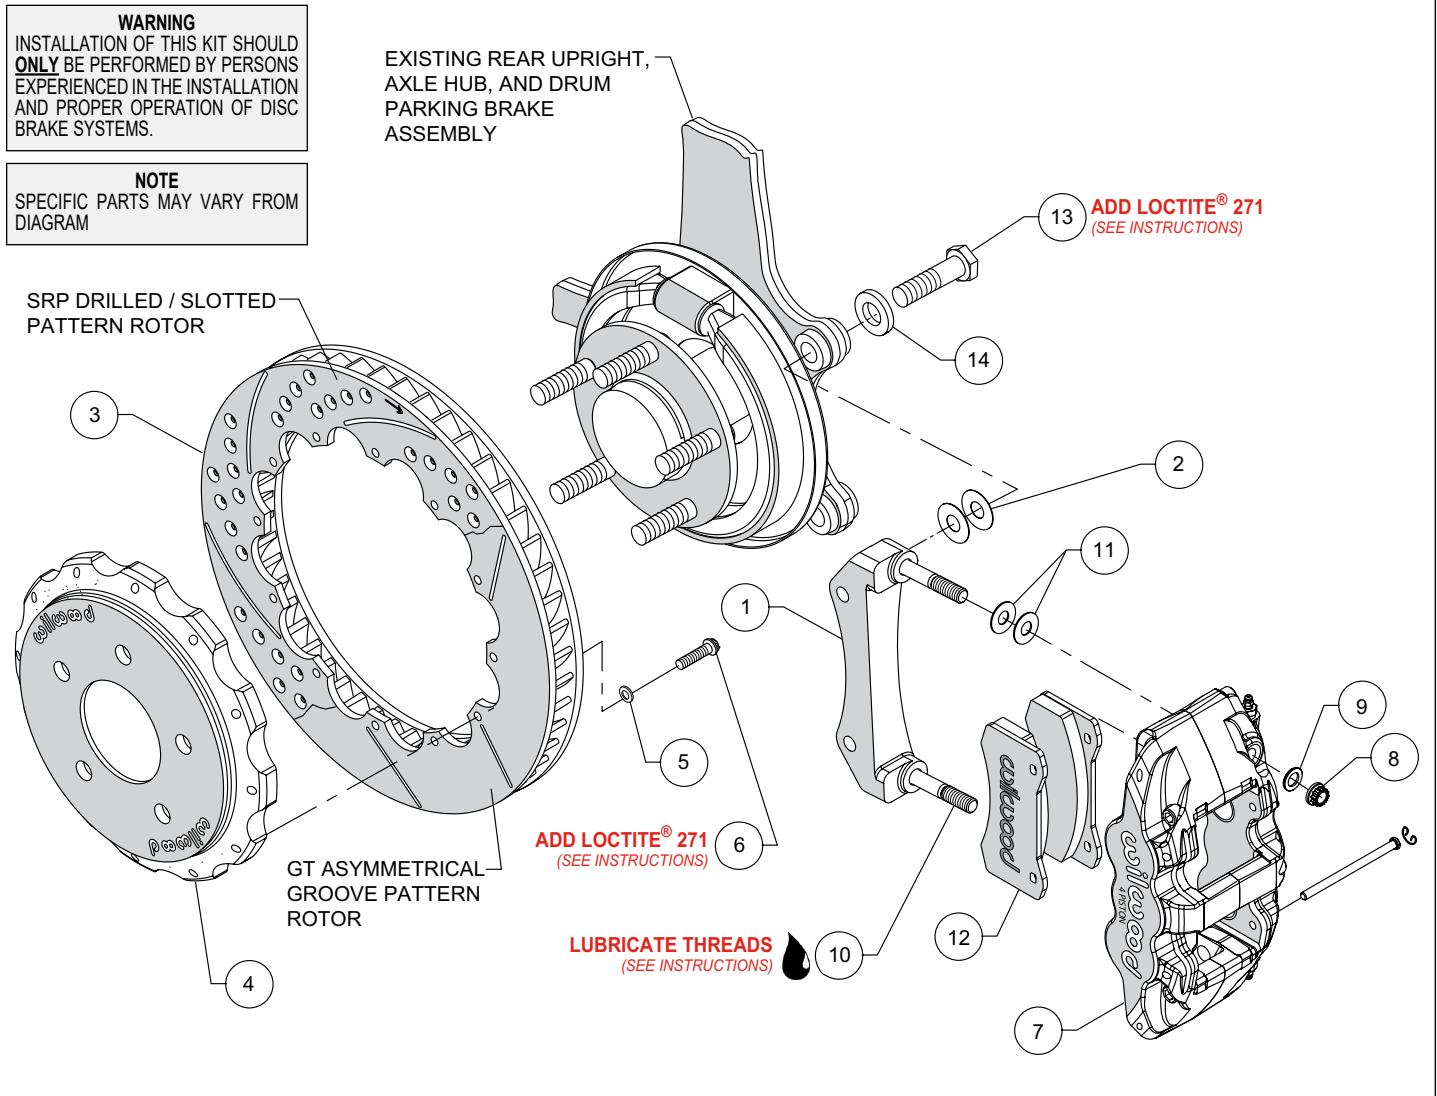
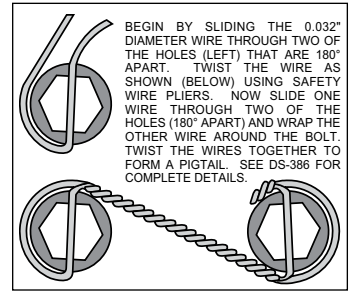

Figure 1. Typical Installation Configuration
Figure 3. Safety Wire Diagram
Assembly Instructions (numbers in parenthesis refer to the parts list and Figure 1 on the preceding pages):
- The caliper mount bracket assembly (1) should initially be installed with clean, dry threads on the mounting bolts. Orient the bracket, as shown in Figure 1, Photo 1, and Photo 2. Install using bolts (13) and washers (14), Figure 1. Initially place two .029" thick shims (2), on each bolt between the bracket and upright, Figure 1 and Photo 1. Temporarily tighten the mounting bolts. **NOTE:** The bracket must fit squarely against the mount bosses on the upright. Inspect for interference from casting irregularities, machining ridges, burrs, etc. Later, after the caliper alignment has been checked, the mount bolts will be secured using *Loctite*®.
- Orient the rotor (3) and the hat (4) as shown in Figure 1 and Photo 3. Attach rotor to hat using bolts (6) and washers (5). Apply red *Loctite*® 271 to the bolt threads and torque to 140 in-lb using a criss-cross pattern. For an added measure of security, the bolts may be safety wired using standard 0.032 inch diameter stainless steel safety wire as shown in Figure 3. Please refer to Wilwood's data sheet DS-386 (available at www.wilwood.com/Pdf/DataSheets/ds386.pdf) for complete safety wire installation instructions.
- Lubricate the caliper mounting studs (10) with lightweight oil. Initially place two .030" thick shims (11) on each stud between the caliper and the bracket, as shown in Figure 1 and Photo 4. With the bleed screws pointing up, mount the caliper (7) onto the bracket (1) using lock nuts (8) and washers (9), Figure 1. Temporarily tighten the lock nuts and view the rotor through the top opening of the caliper. The rotor should be centered in the caliper, Photo 5. If not, adjust by adding or subtracting shims (2) between the bracket and the upright. Always use the same amount of shims on each of the two mounting bolts. Once the caliper alignment is correct, remove the bracket mounting bolts one at a time, apply red *Loctite*® 271 to the threads, and torque to 65 ft-lb.
- Remove the two pad retaining pins from the caliper (7) by carefully popping out the pin retaining clips and sliding out the pins. Insert the brake pads (12) into the caliper from the bottom, Figure 1 and Photo 6. With the friction material facing the rotor, secure the brake pads in place with the pad retaining pins and clips, Photo 7. Reinstall the caliper onto the caliper mounting bracket and temporarily tighten the lock nuts. Check that the top of the brake pad is flush with the outside diameter of the rotor, Photo 8. If not, adjust by adding or subtracting shims (11) between the caliper and the bracket. After the caliper pad height is set, torque the caliper lock nuts (8) to 47 ft-lb.